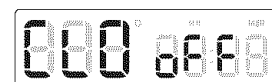

Fig. 2
2. Use the +hi & -lo to toggle to the CLO off option -Fig. 2-.	+hi or -lo